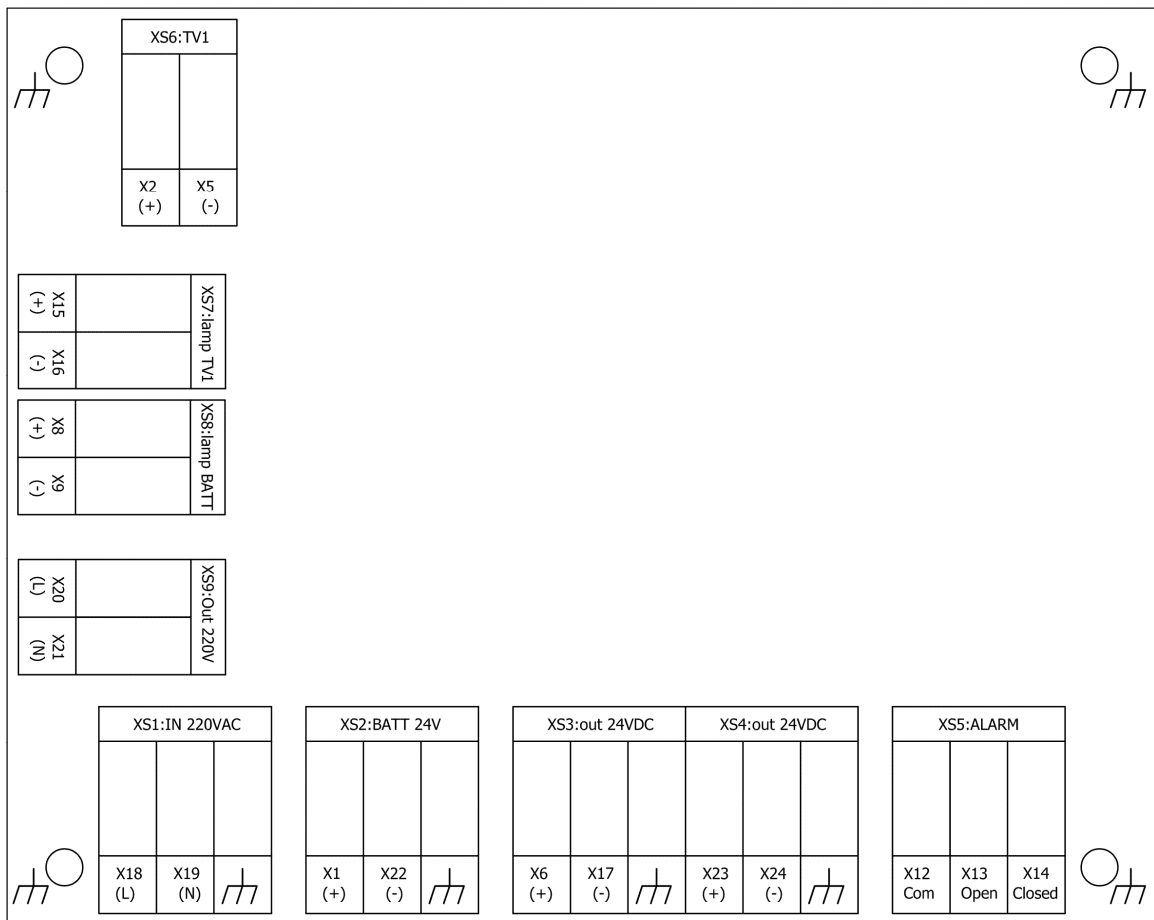

Fig. 2. Terminal assembly layout on the printed circuit of PSU
Power Supply Unit consists of the case and cover. In order to access to terminal assembly you should detach the cover. 2 terminals for connecting loads are available (Fig. 2, XS3 and XS4).
5. Connect line wires 220VAC, 50Hz to mains terminals XS1 in accordance with phasing indicated in Fig. 2.